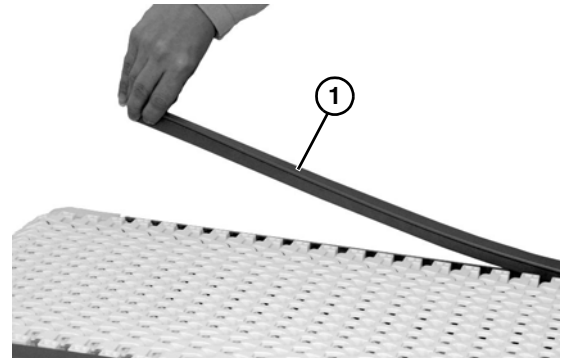

Figure 24
11. Install the top bar caps (**Figure 24, item 1**) on the conveyor frame with wide lip facing up to cover the belt tabs.